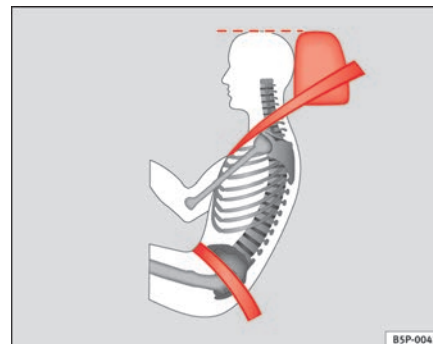

Fig. 13 Correct belt web and head restraint positions, viewed from side ▶
- The lap part of the seat belt must lie across the pelvis, never across the stomach. The seat belt must lie flat and snugly on the pelvis ⇒ page 23, fig. 13. Pull the belt tight if necessary to take up any slack.